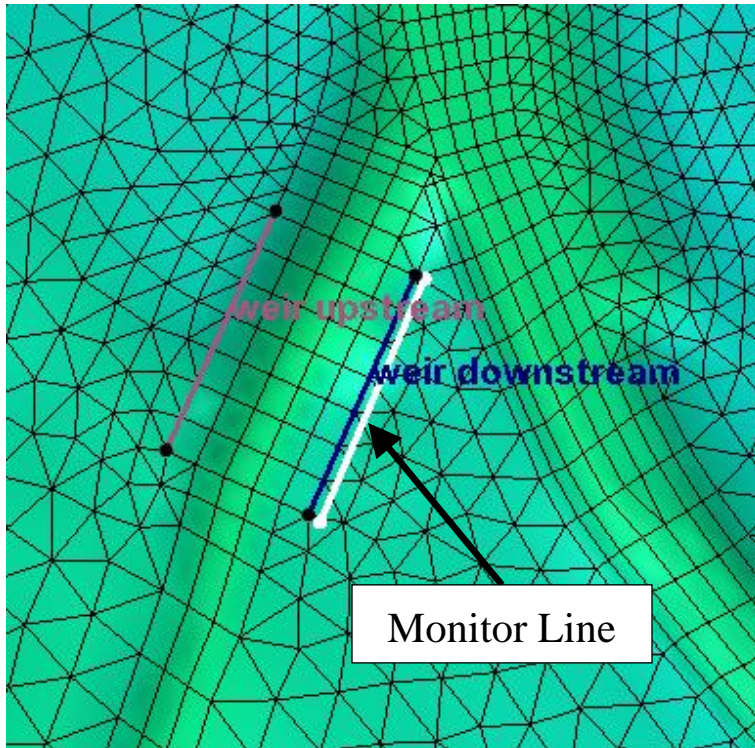

Figure 4 Monitor line offset from the downstream weir arc
2. Using the **Create Feature Arc**  tool, create a monitor line closely offset from the downstream weir face arc (see Figure 4).